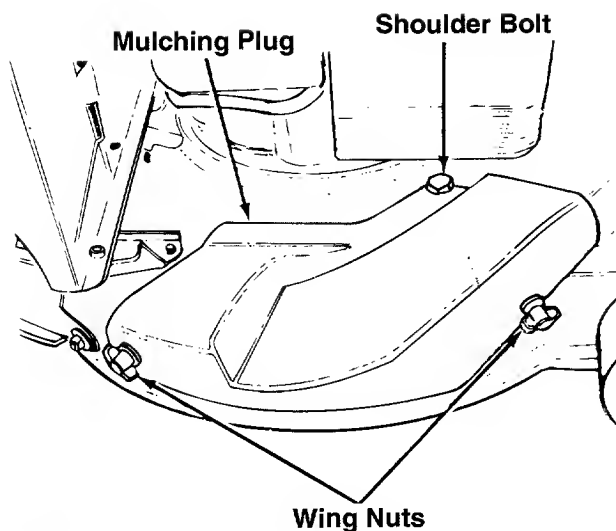

FIGURE 5.
2. Attach the mulching plug by first placing it over the rear bolt in the side of the deck. Then slide the notch in the top of the mulching plug around the shoulder bolt on top of the deck. Slide the notch in the side of the mulching plug around the front bolt in side of the deck. Secure using two wing nuts. See figure 5.